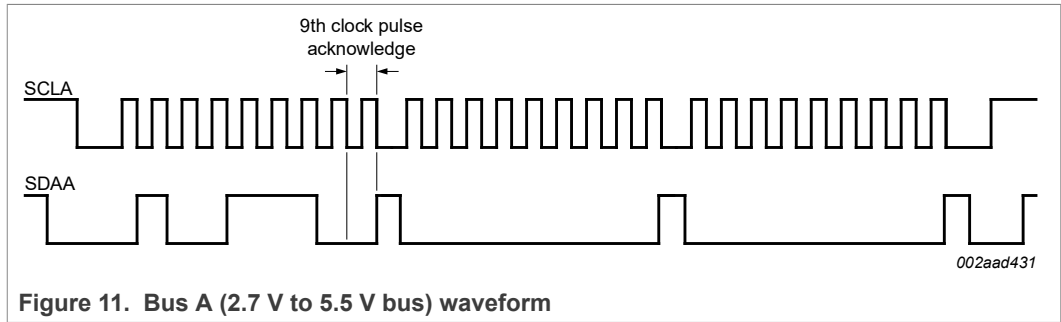
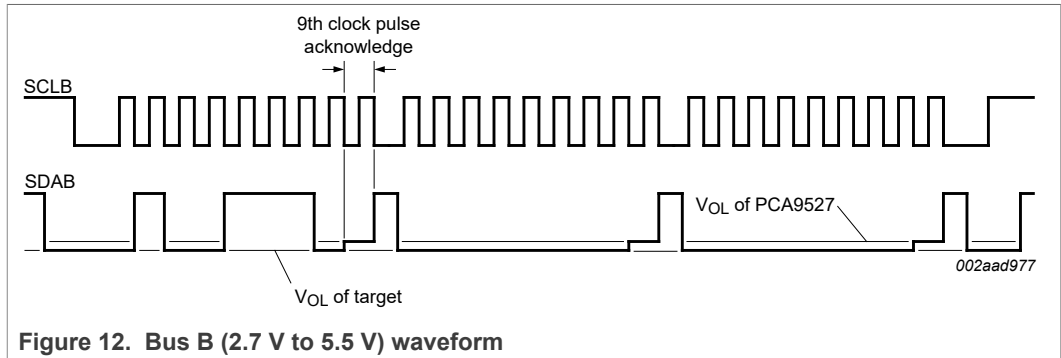

Figure 11. Bus A (2.7 V to 5.5 V bus) waveform
Figure 12. Bus B (2.7 V to 5.5 V) waveform
According to Figure 5, when port A of the PCA9527 is pulled LOW by a driver on the I2C-bus, a comparator detects the falling edge when it goes below 0.3VCC(A) and causes the internal driver on port B to turn on, causing port B to pull down to about 0.5 V. When port B of the PCA9527 falls, first a CMOS hysteresis type input detects the falling edge and causes the internal driver on port A to turn on and pull the port A pin down to ground. In order to illustrate what would be seen in a typical application, refer to Figure 11 and Figure 12.
If the bus controller in Figure 5 were to write to the target through the PCA9527, waveforms shown in Figure 11 would be observed on the A bus. This looks like a normal I2C-bus transmission except that the HIGH level may be as low as 2.7 V, and the turn on and turn off of the acknowledge signals are slightly delayed.